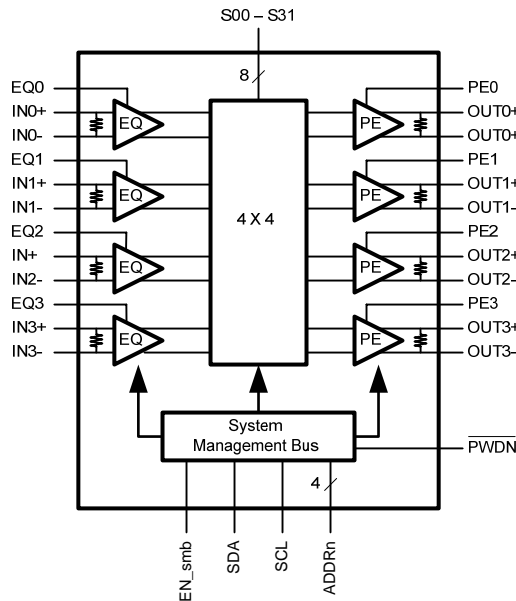

Figure 3. DS25CP104 Block Diagram
1. The **DS25CP104** IC with associated connectors and jumpers is the main part of the board. The block diagram of the DS25CP104 is shown in Figure 3. The receive buffers can be set to Off and Low equalization by the external pins EQ0 – EQ3; the transmit buffers can be set to Off and Med. levels of pre-emphasis by the external pins PE0 – PE3. Since data capabilities are 3.125 Gbps, SMA connectors are used to ensure minimal loss. More information can be found about the DS25CP104 on the data sheets.